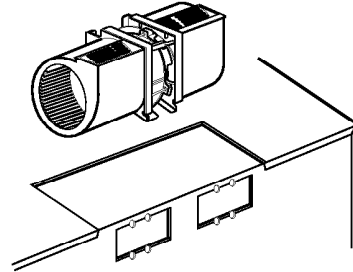

Figure 20
- (1) When mounting the door assembly to the oven assembly, be sure to adjust the door assembly parallel to the chassis. Also adjust so the door has no play between the inner door surface and oven frame assembly. If the door assembly is not mounted properly, microwaves may leak from the clearance between the door and the oven.
- (3) Carefully pull the ventilation motor ASS'Y out of the microwave oven. (See Figure 20)